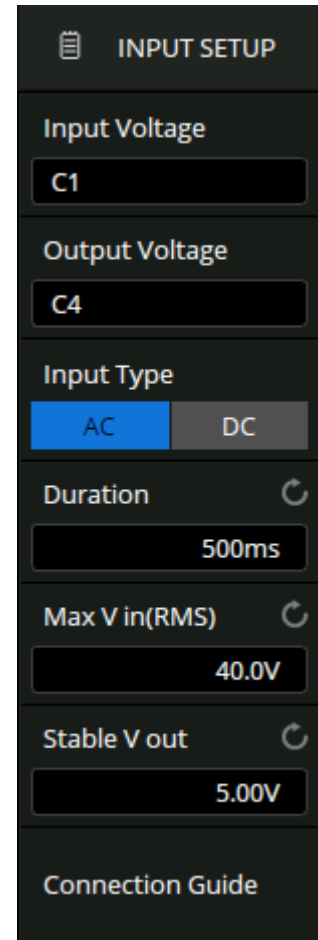

Figure 19.19 Input Setup Menu
1. Touch **Input Setup** to display the signal menu shown in figure 19.19.